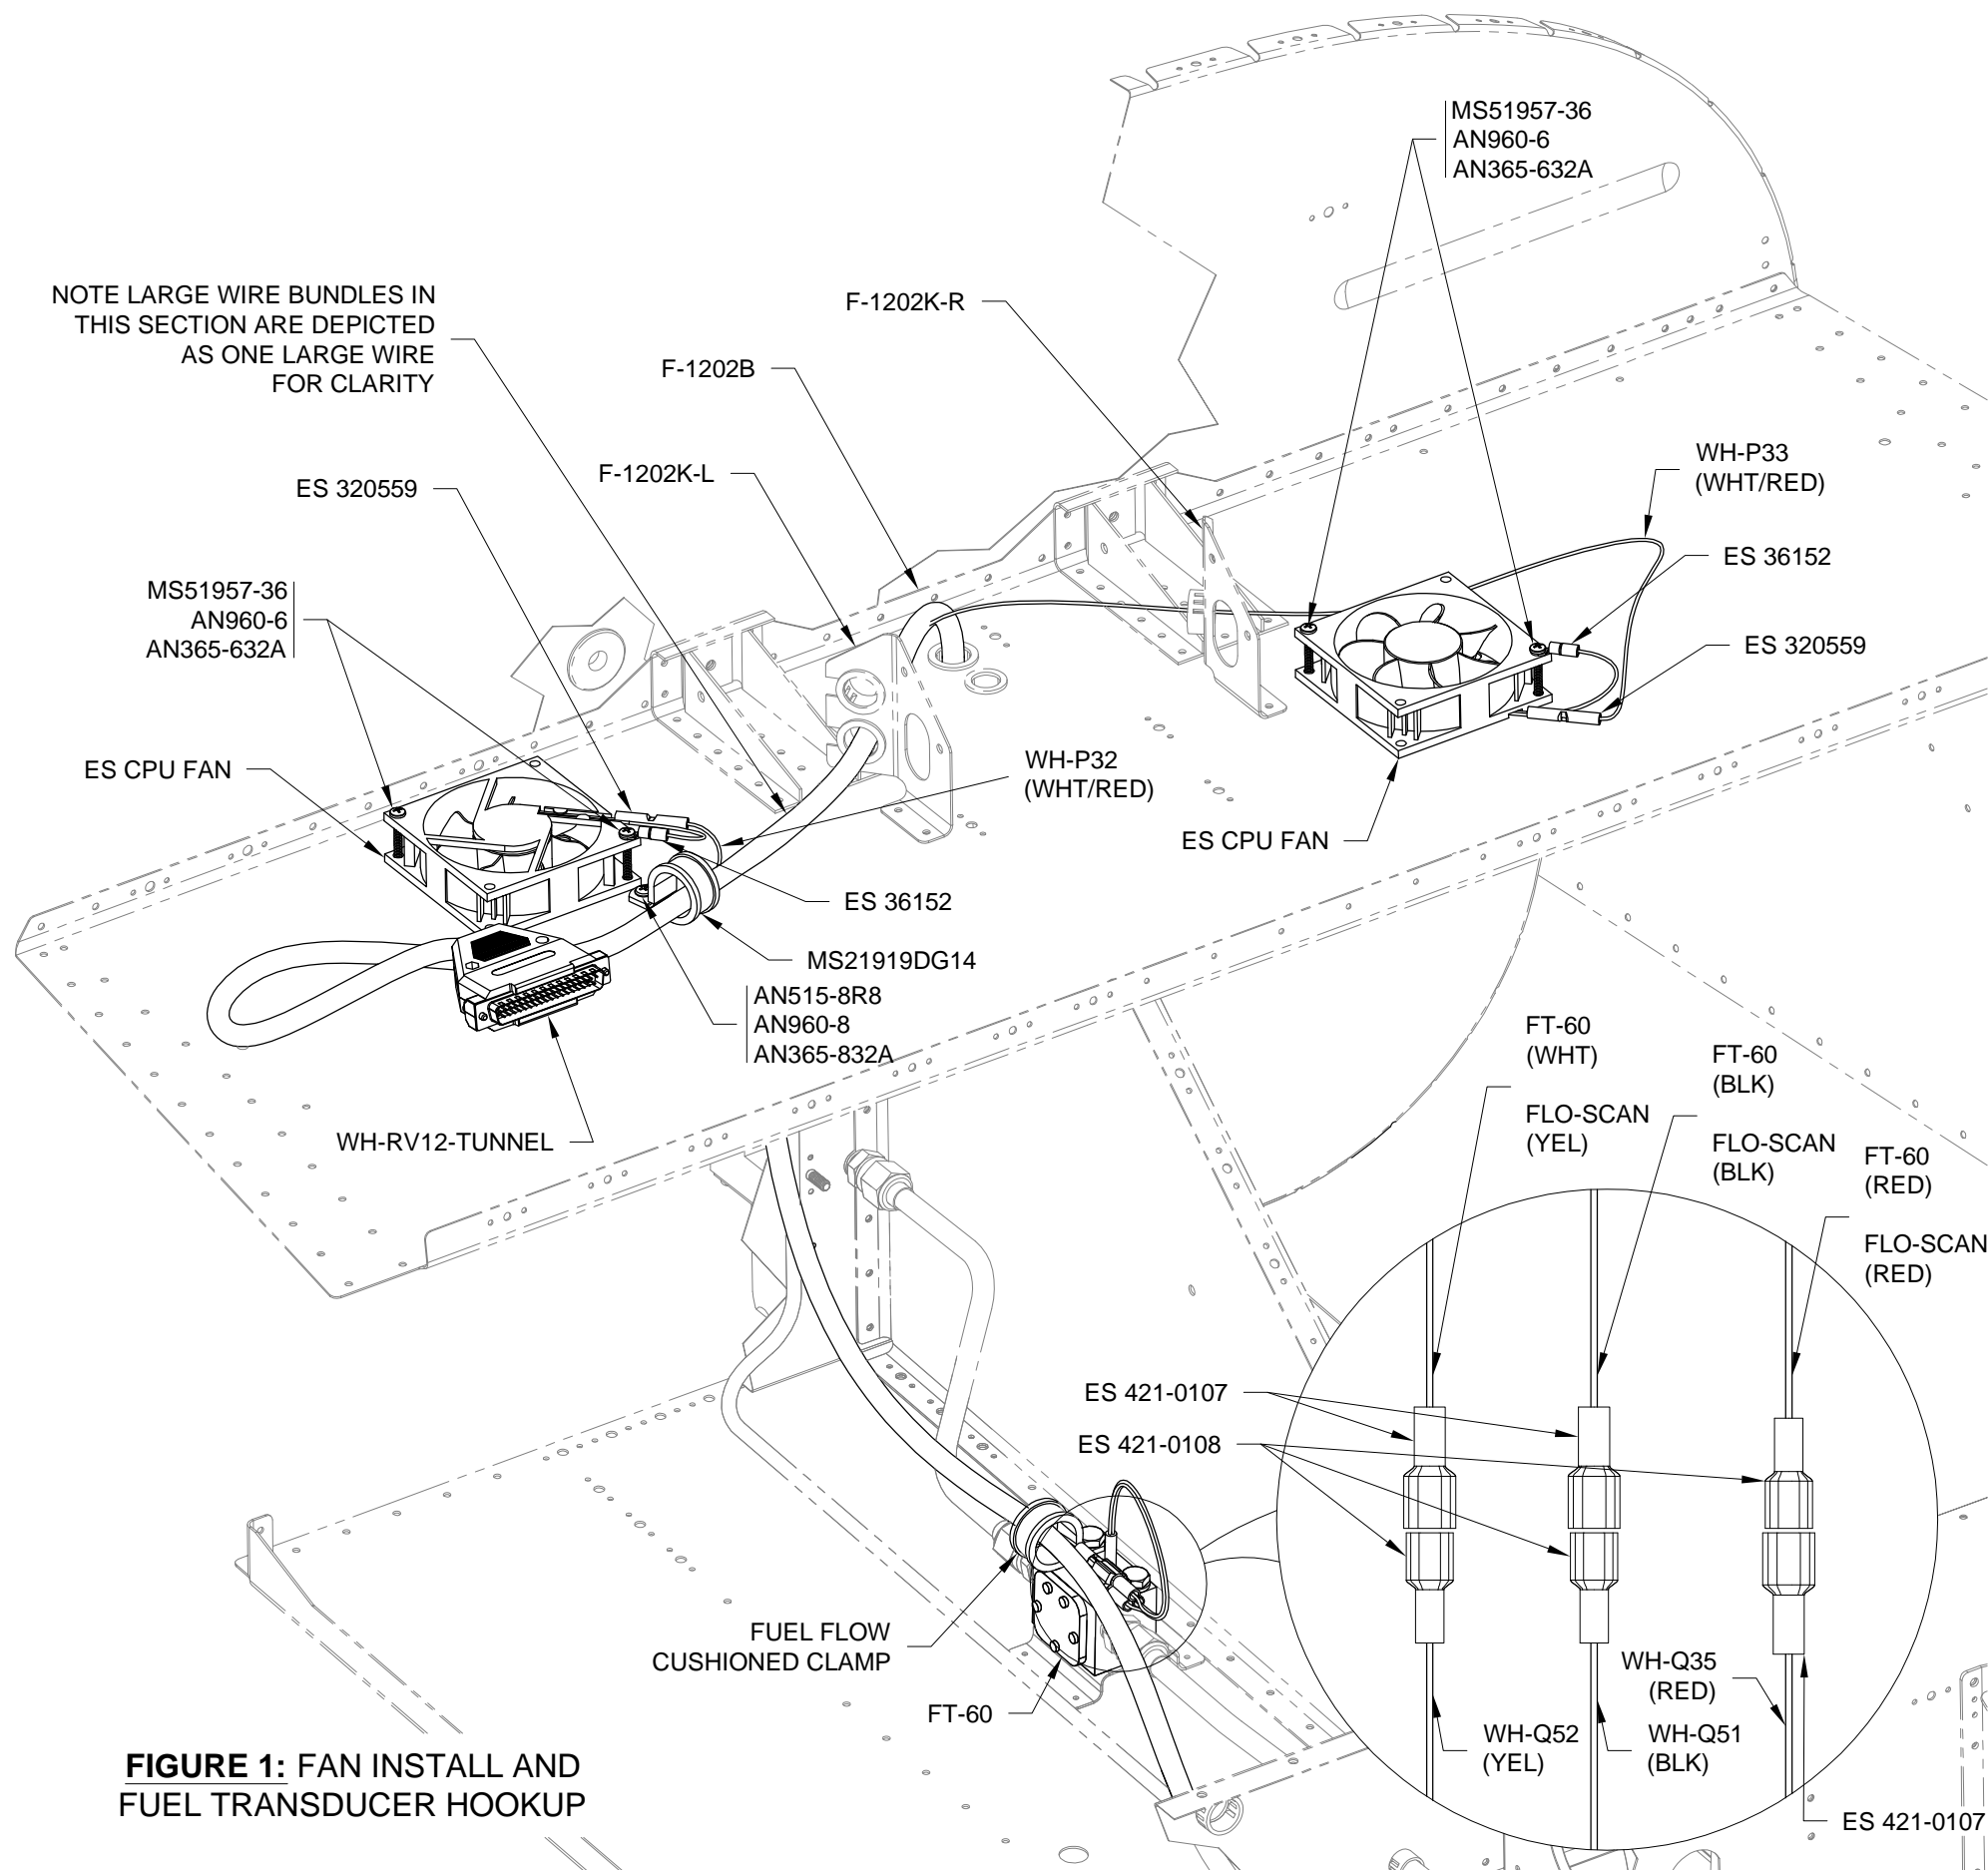

FIGURE 1: FAN INSTALL AND FUEL TRANSDUCER HOOKUP
Step 5: Strip the ends of both the black and red wires coming from both ES CPU FAN's. Crimp on ring terminals to the ends of the black wires per the hardware call-outs in Figure 1.
Step 6: Install both ES CPU FAN's per the hardware call-outs in Figure 1 with the left fan blowing up and the right fan blowing down. The ground ring terminal goes underneath the head of one of the screws that hold the fans in place. The flow direction of the fan can be checked by hooking the red wire to the positive terminal on a 12 volt battery and touching the black to the negative battery terminal.
Step 7: Strip the ends of the WH-P32 & P33 (WHT/RED) Fan Power Wires and connect them to the red wires coming from the fan using the butt splices called out in Figure 1.
Step 8: Add a cushioned clamp around the WH-RV12-TUNNEL harness just aft of the left ES CPU FAN as shown in Figure 1. Loosely install the screw for adding more cables later.
Step 10: Separate out the the twisted wires WH-Q51 (BLK), WH-Q52 (YEL) and WH-Q35 (RED) and strip the ends. Attach female spade connectors to the black and yellow wires and a male connector to the red wire per the hardware call-outs in Figure 1.